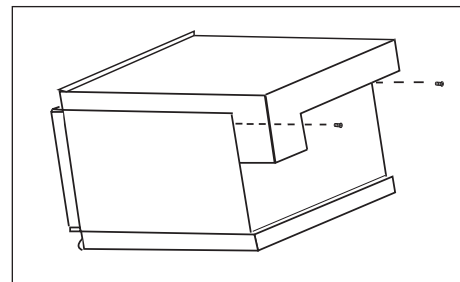

Figure 6
C. Remove existing screw from upper right and left rear of microwave (See Fig. 6).
D. Place top duct cover assembly on microwave. Reinsert existing screws through assembly into original screw holes (See Fig. 6).
B. Carefully guide complete assembly between bottom cleats and push assembly back. When both top and bottom duct work are assembled and correctly placed, their flanges will be tight against top and bottom outer edge of opening (See Fig. 6).